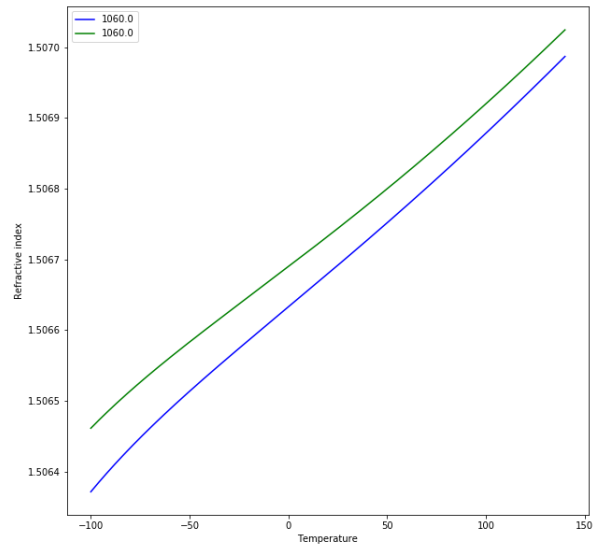
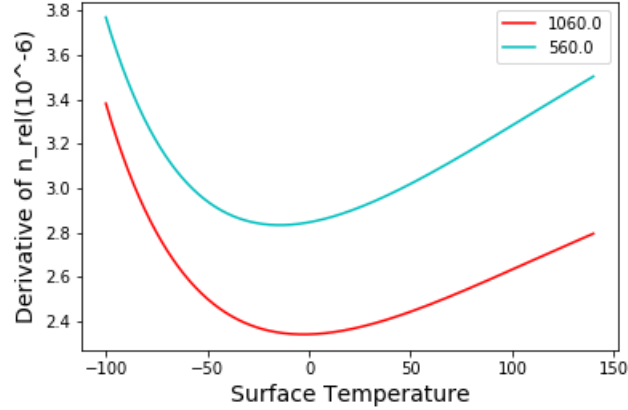

Figure 16: Green color for pressure at  $P=90000$  Pa and Blue color for pressure  $P = 103250$  Pa
Figure 17: rate is changed drastically at temperature around 0 celcius
Now refractive index at any given temperature and pressure is calculated from equation (30). In catalog, N-BK7 has reference temperature 20 celcius and I found the refractive index at temperature 40 celcius at pressure 103250 Pa. It gave the answer at wavelength 1060 nm around 1.5067275810747285. And at reference temperature with one atmospheric pressure is 1.5066875568966998. But if we keep temperature constant and decrease the pressure at 90000 Pa of surrounding then value is 1.5067772329259013. As we can see from data for refractive index at constant temperature but different pressure gives the different values. Reason for this trend is that pressure applies on lens surface inward while temperature of glass applies the force outward because of thermal expansion. So if we keep the temperature constant and decrease the pressure then temperature effect will dominate and refractive would be greater than the high pressure condition. Now the plot between refractive index for particular wavelength with temperature is in figure 16. For N-BK7, the refractive is increasing with increasing of temperature. Now fourth plot is between change of rate of derivative of relative refractive index with temperature at pressure 103250 Pa. This gives the rate at which relative refractive index changes with temperature. In the figure 17, the rate is decreasing till 0 celcius and increasing after that. So these are all analysis of N-BK7 from given catalog.